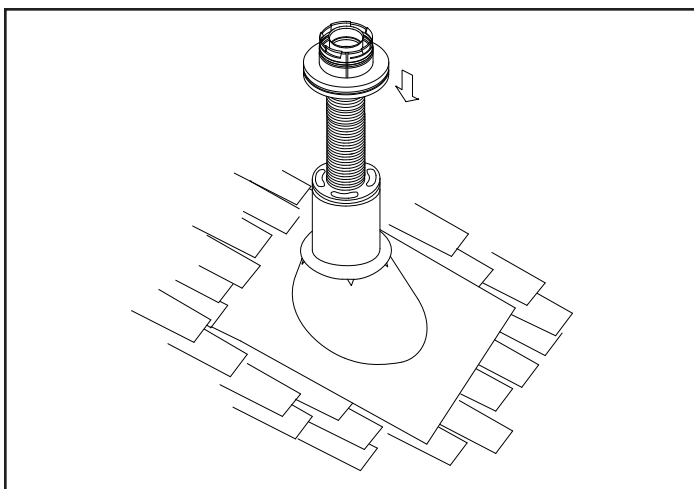
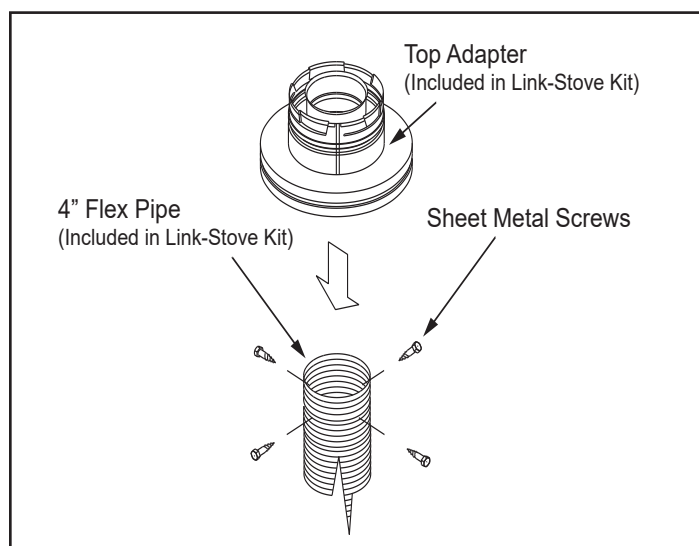

Figure 3.21
Figure 3.22
4. Pass the flex pipe down through the center of the chimney system, and center the top adaptor on the top of the chimney pipe. Drill four 1/8 in. (3mm) diameter holes through the top adaptor, and into the chimney top. Ensure that you are drilling into the metal on the chimney. Twist lock the high wind termination cap onto the top adaptor. See Figure 3.21 and Figure 3.22.